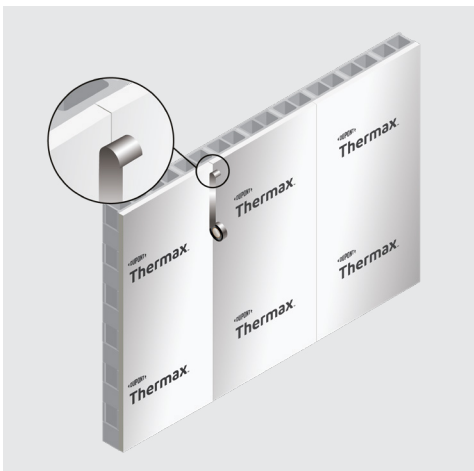

Figure 4
5. Center **Thermax™ Aluminum Foil Tape** or **Thermax™ White Foil Tape** over the dry, clean seams (Figure 4). Use a squeegee, or stiff bristle brush or soft paint roller to press the tape firmly onto the seam. Cut with knife or scissors. Do not tear tape.